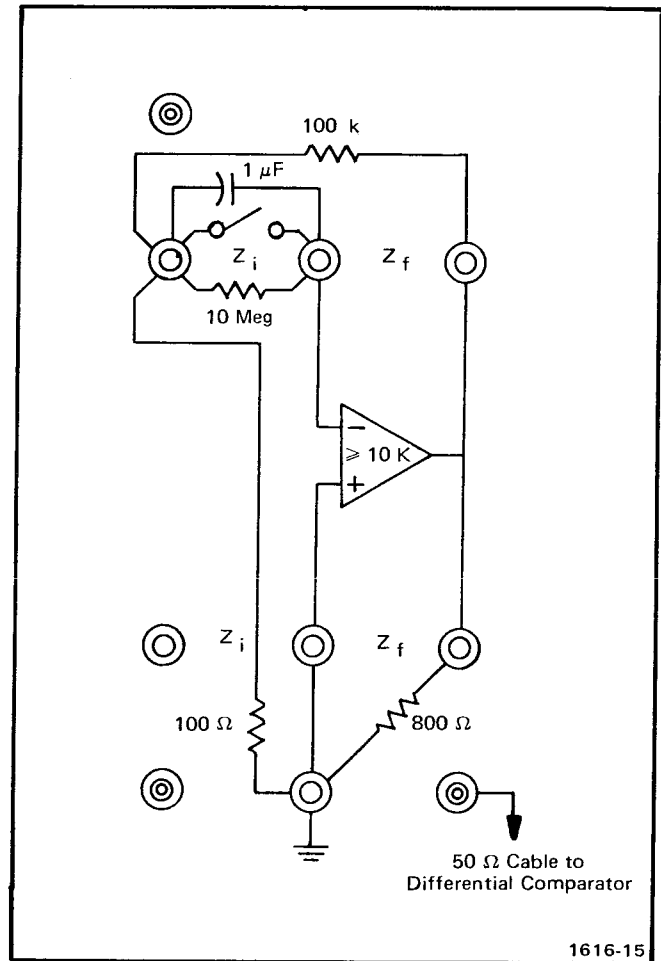

Fig. 2-6. Operational amplifier connected to check Leakage Current for - Input.
a. Connect the 800 Ω, 100 k, 100 Ω, 10 MΩ, 1 μF capacitor, and the SPST switch to the terminals of the AM 501 as illustrated in Fig. 2-6.